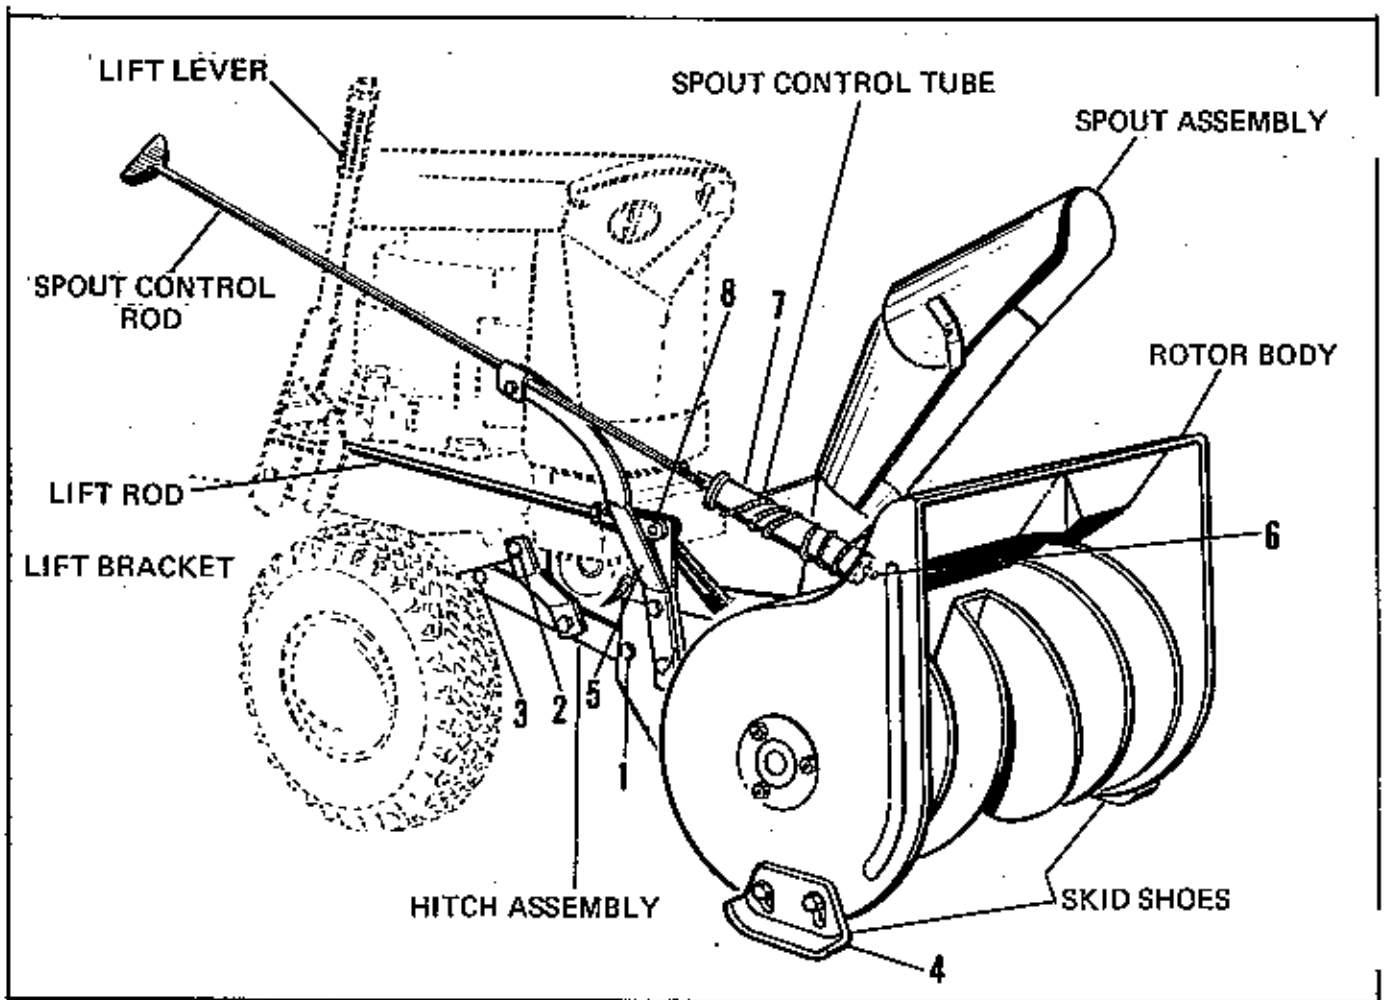
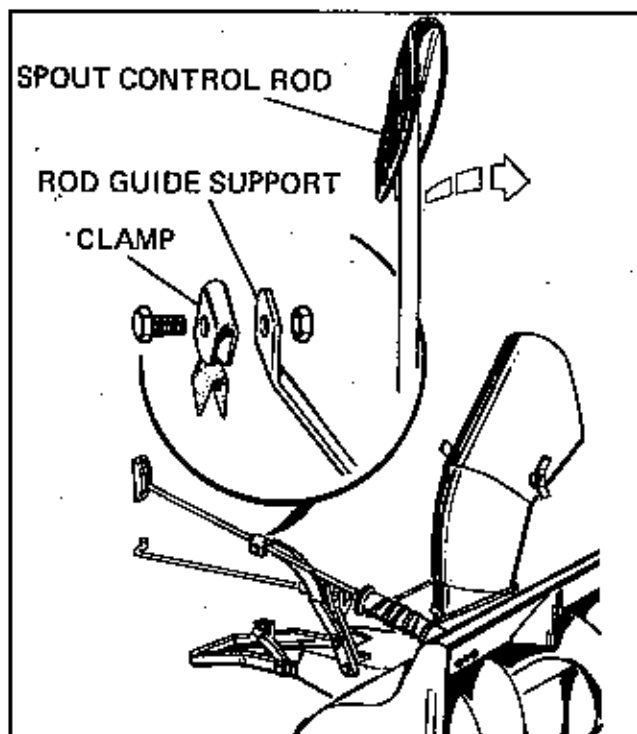

Figure 1.
Figure 4.
1. Attach the hitch assembly to rotor body assembly with the (2) pins and spring clips provided. See (1), Figure 1.
3. Place the hitch assembly under the front end of the tractor. The hitch is suspended beneath the tractor at points 2 and 3 as shown in Figure 1.
5. Attach the skid shoes to the body assembly using the 3/8"-16 x 3/4 carriage bolts, 3/8" plain washer, 3/8" lockwasher and 3/8"-16 full hex nuts as shown at (4), Figure 1.
7. Attach the spout control rod support bracket (5), Figure 1, with two 3/8"-16 x 1" long hex capscrews and 3/8" lockwashers and 3/8"-16 hex nuts.
8. Insert spout control tube into nylon bearing on body assembly (See (3), Figure 1) and secure in place with two 1/8" x 3/4" cotter pins. Insert the spout control rod in the spout control tube and secure with the 5/32 x 1" cotter pin.
9. Position discharge spout directly forward. Position control tube so the cable clamp faces the side of the spout. Provide 2-1/2 coils on top and 2-1/2 coils on the bottom. The end of the cable closest to operator passes under the tube. The end away from operator passes over the top of tube. See (7), Figure 1. In order to insure tightness of the spout cable, it is helpful to slant the control rod slightly inboard to the rod guide support as shown in Figure 4. Position the free ends of the cable around the spout and clamp securely with the cup washer, 5/16" lockwasher and 5/16"-18 full hex nut. Move the spout control rod and back to the rod guide support and secure with the
10. Connect one end of the lift rod (8), Figure 1, to the lift bracket on the rotor housing, using a spring clip. The other end of the lift rod is connected to the lift lever on the tractor and is secured with a spring clip.